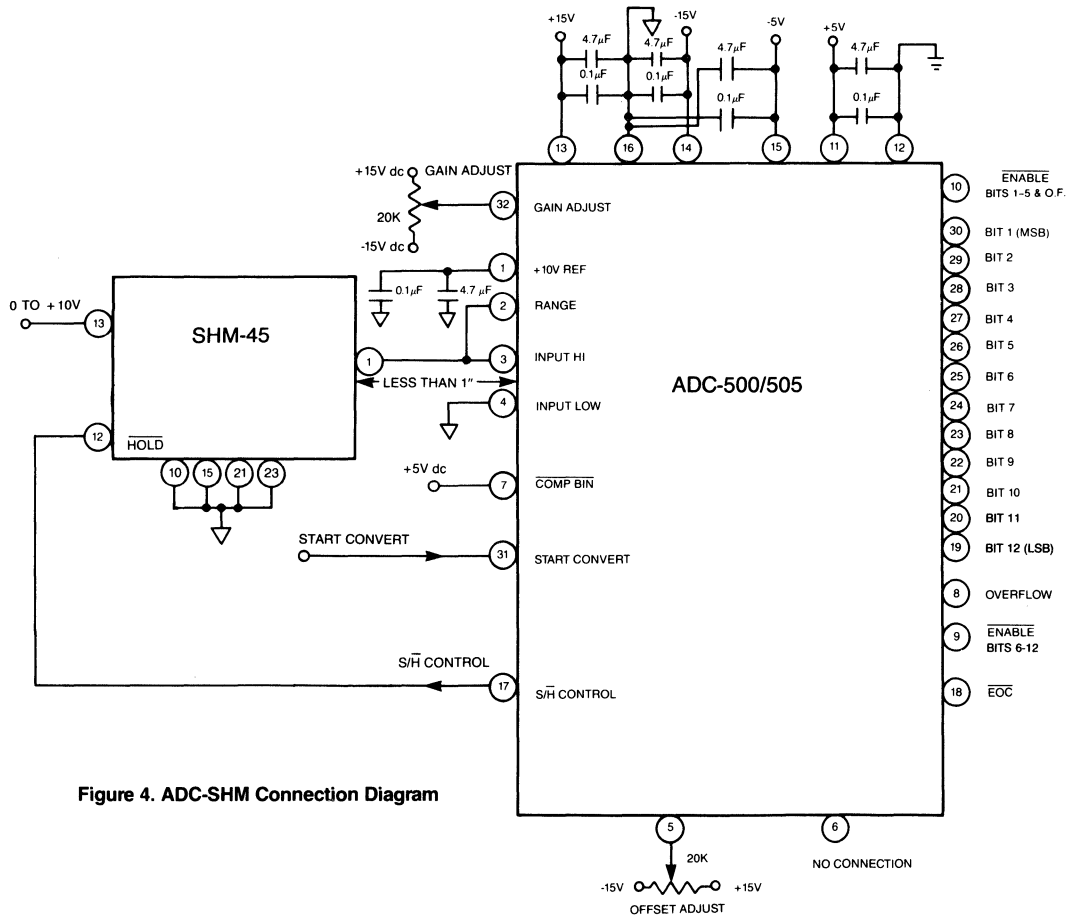

Figure 4. ADC-SHM Connection Diagram
- Requirements for  $\pm 2.5V$  inputs can be satisfied using DATEL's AM-1435 amplifier in front of the SHM-45/ADC-500 configuration, shown in Figure 4, at the appropriate gain. The SHM-45's gain of 2 mode allows 0 to +5V or  $\pm 5V$  input ranges.
This theory of operation describes the ADC-500's operation in conjunction with DATEL's SHM-45. The SHM-45 sample-and-hold device captures fast signals for an ADC-500 to then digitize. Figure 4 shows a typical ADC-SHM circuit. The ADC-500 employs a subranging architecture with digital error correction. Also known as a two-step method of conversion, this technique uses a single 7-bit flash converter twice in the conversion process to yield a final resolution of 12 bits. Refer to the ADC-SHM connection diagram, the ADC block diagram, and the timing diagram as needed (Figures 4, 1 and 2 respectively).